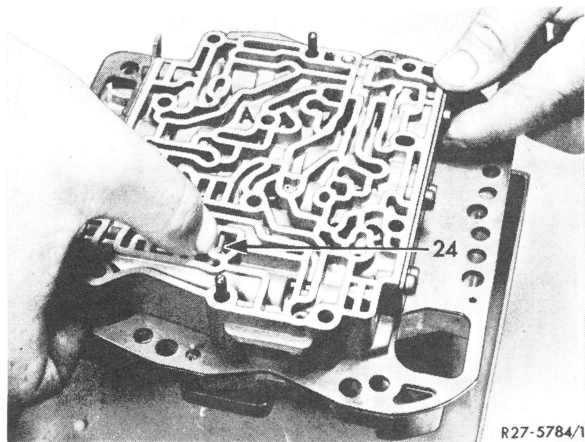

Fig. 9
**18** Cant valve stem projecting at top by applying lateral pressure. Place bottom (A) on oil distributing plate and release valve stem; valve should audibly knock against intermediate plate (Fig. 9).